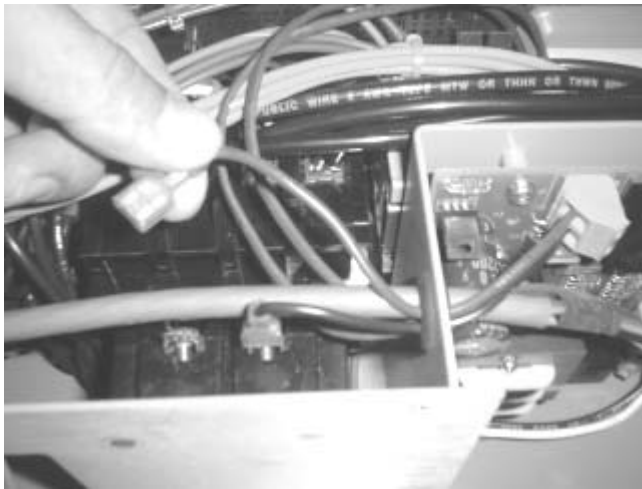

Fig 13
15. Figures 13, 14 and 15 show the new control board wiring.